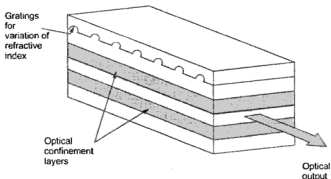

Fig. 3.1.11 DFB laser diode
- In DFB laser the lasing action is obtained by periodic variations of refractive index along the longitudinal dimension of the diode. Fig. 3.1.11 shows the structure of DFB laser diode.